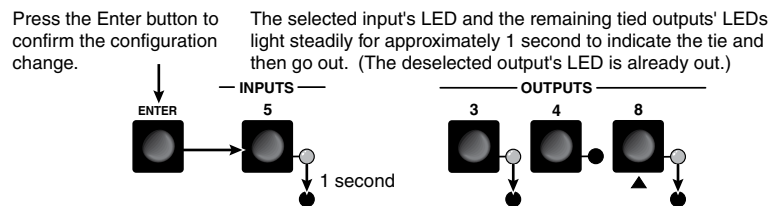

Figure 3-16 — Press the Enter button
4. Press and release the Enter button (figure 3-16).